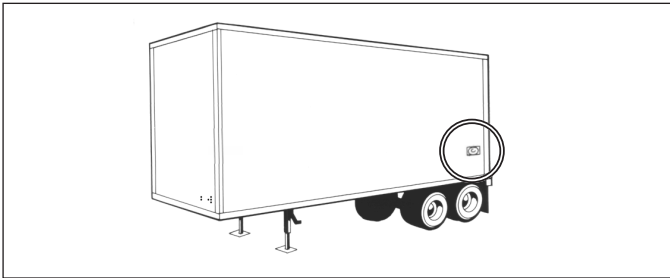

FIGURE 5 - TRAILER-MOUNTED ABS INDICATOR LAMP
- **Trailer ABS Indicator Lamp:**Controlled by the ECU to show the ABS status, the trailer ABS indicator lamp illuminates when a DTC is active. See Figure 5. If there are no ABS diagnostic trouble codes present, when ignition power is applied to the ECU, the lamp will illuminate as a bulb check lasting typically two (2), up to six (6) seconds at most.